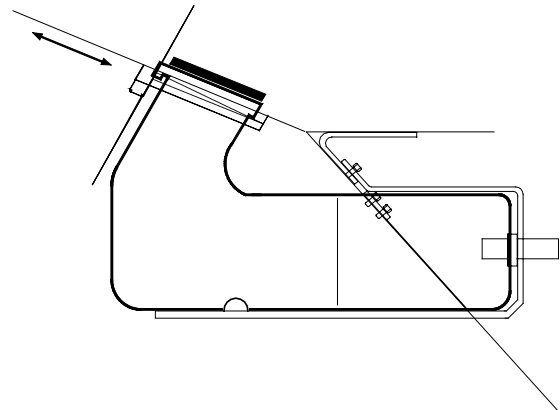

Fig. 23b
Removing the filter unit (fig. 23b):
- Pull off the entire filter unit (fig. 23b) to the front.